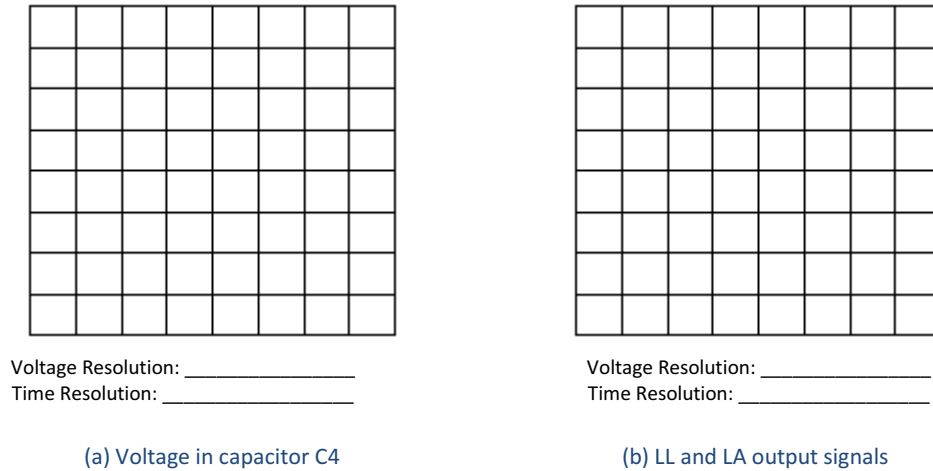
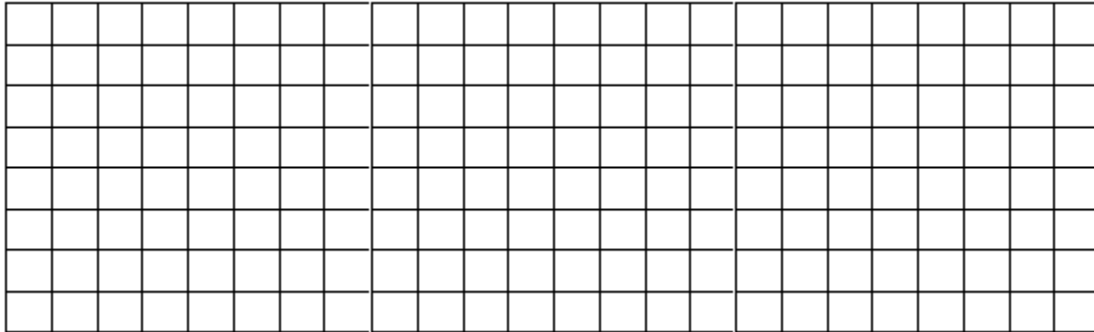

Figure 17 – R and S wave circuit signals.
Figure 22 – ECG simulator final waveform.
17. Using the frequency found for the HCF4017BEY pin 7, use Equation 1 to calculate and draw in Figure 17 the signal in the points LL and LA in relation to the ground GND (RA) during the R and S waveform.
22. Using the waves from Figure 13, Figure 17 and Figure 21 draw in Figure 22 the final ECG signal expected in the outputs LA and LL in relation to RA.